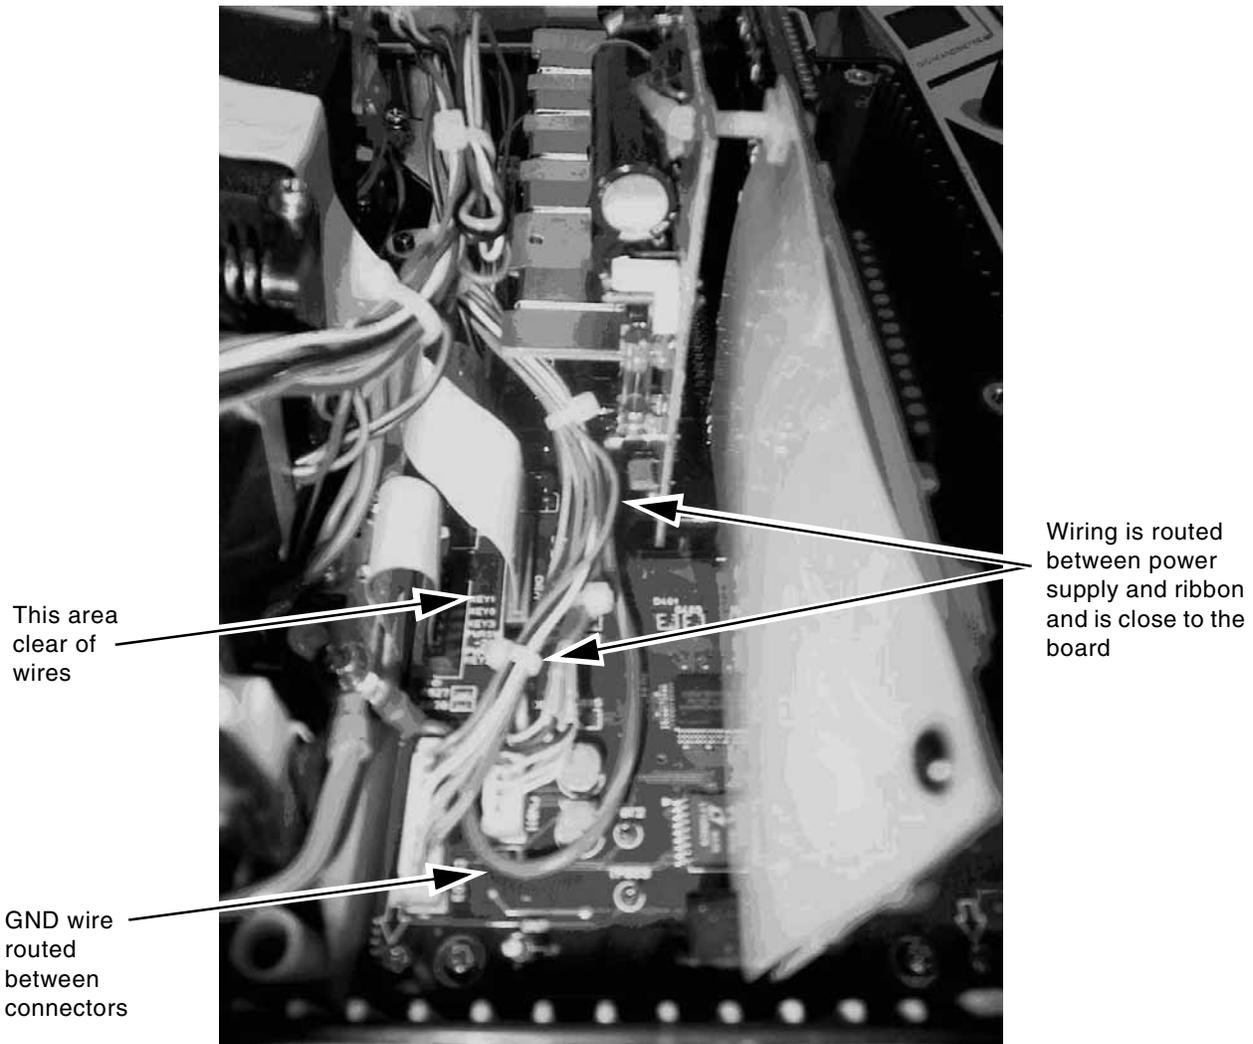

Figure 8-7 Wiring Routing
1. Form the wires leading from CN803 and CN811 such that they run close as possible to the surface of the sensor board up between the power supply and the CNI/F connector. See Figure 8-7.